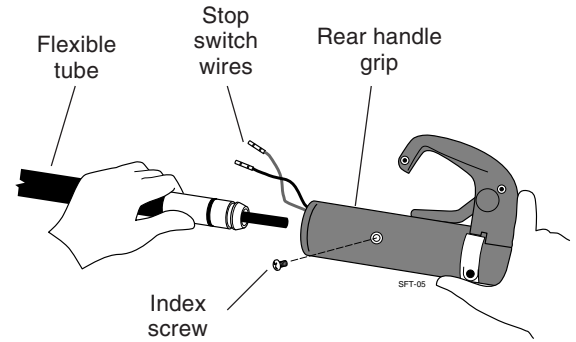

Figure 10.10 Separate the flexible tube from the rear handle grip.
- STEP 1.** Unplug the two stop switch wires, disconnect the throttle cable from the handle, and remove the index screw from the rear handle grip (Figure 10.10).